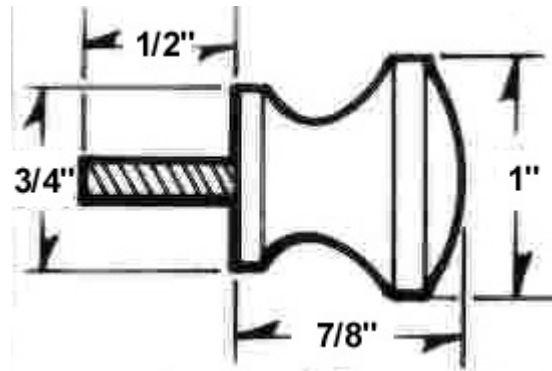

Figure 11: Drawer Knob Placement
7. Mount the third drawer guide (Q) to the center of the case bottom (see complete schematic for correct placement).
8. Place a turned knob (R) or a porcelain knob 1" in diameter in the drawer front (P) to complete the drawer (see **Figure 11**).